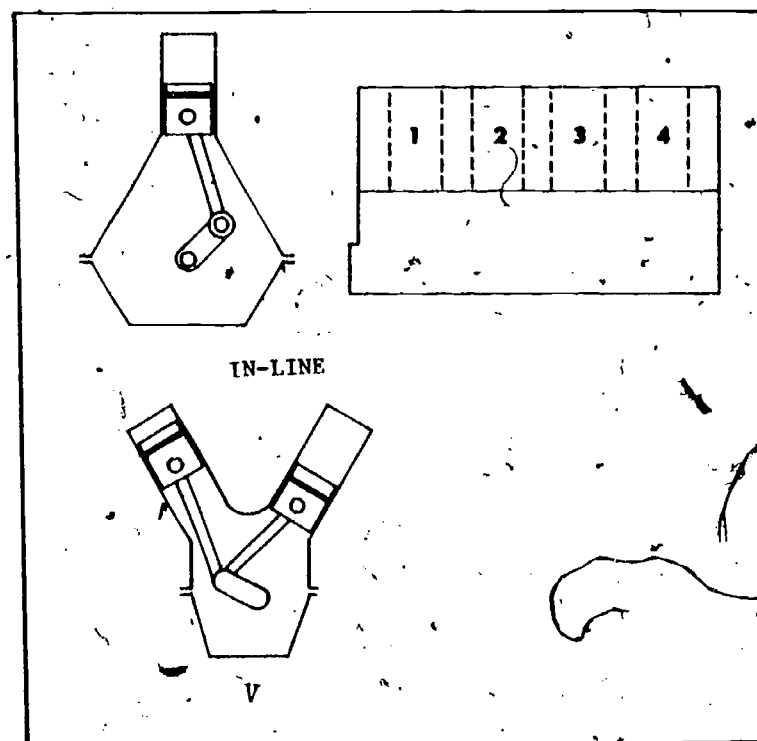

Fig 2-3. In-line and V-engine cylinder arrangement.
- (3) Cylinder arrangement (fig 2-3). - A common engine classification is by cylinder arrangement. An engine with the cylinders one behind the other is classified as an in-line engine. If, when viewed from the end, the cylinders form a V, it is known as a V-engine. Some examples of other arrangements are: the slanted engine and the horizontal engine. Most items of engine equipment use the in-line or V arrangement.